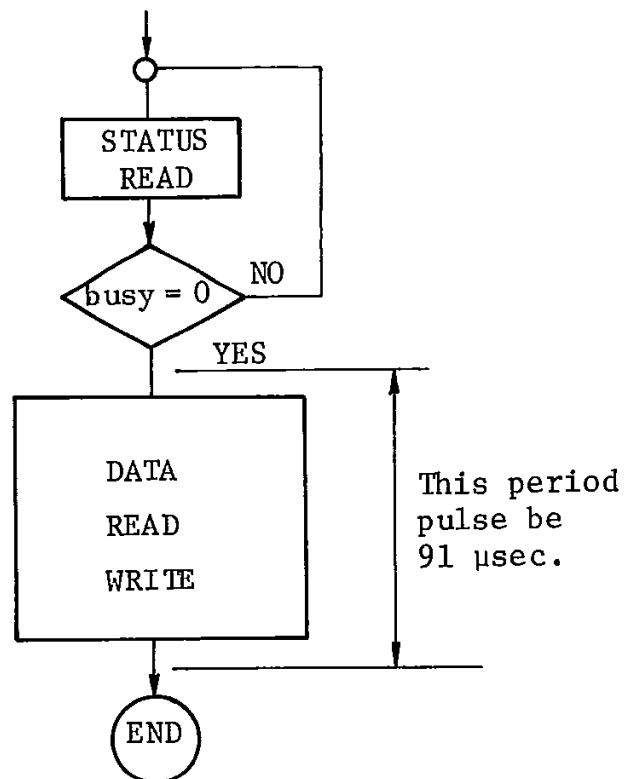

Fig. 5.3 Program Flow (1)
- (1) When it is clear that a series of counter reads or writes completes within 91 usec [for instance, read of second only, write of hour only (time difference correction)], the "busy" flag is used. The program flow in this case is shown in Fig. 5.3.